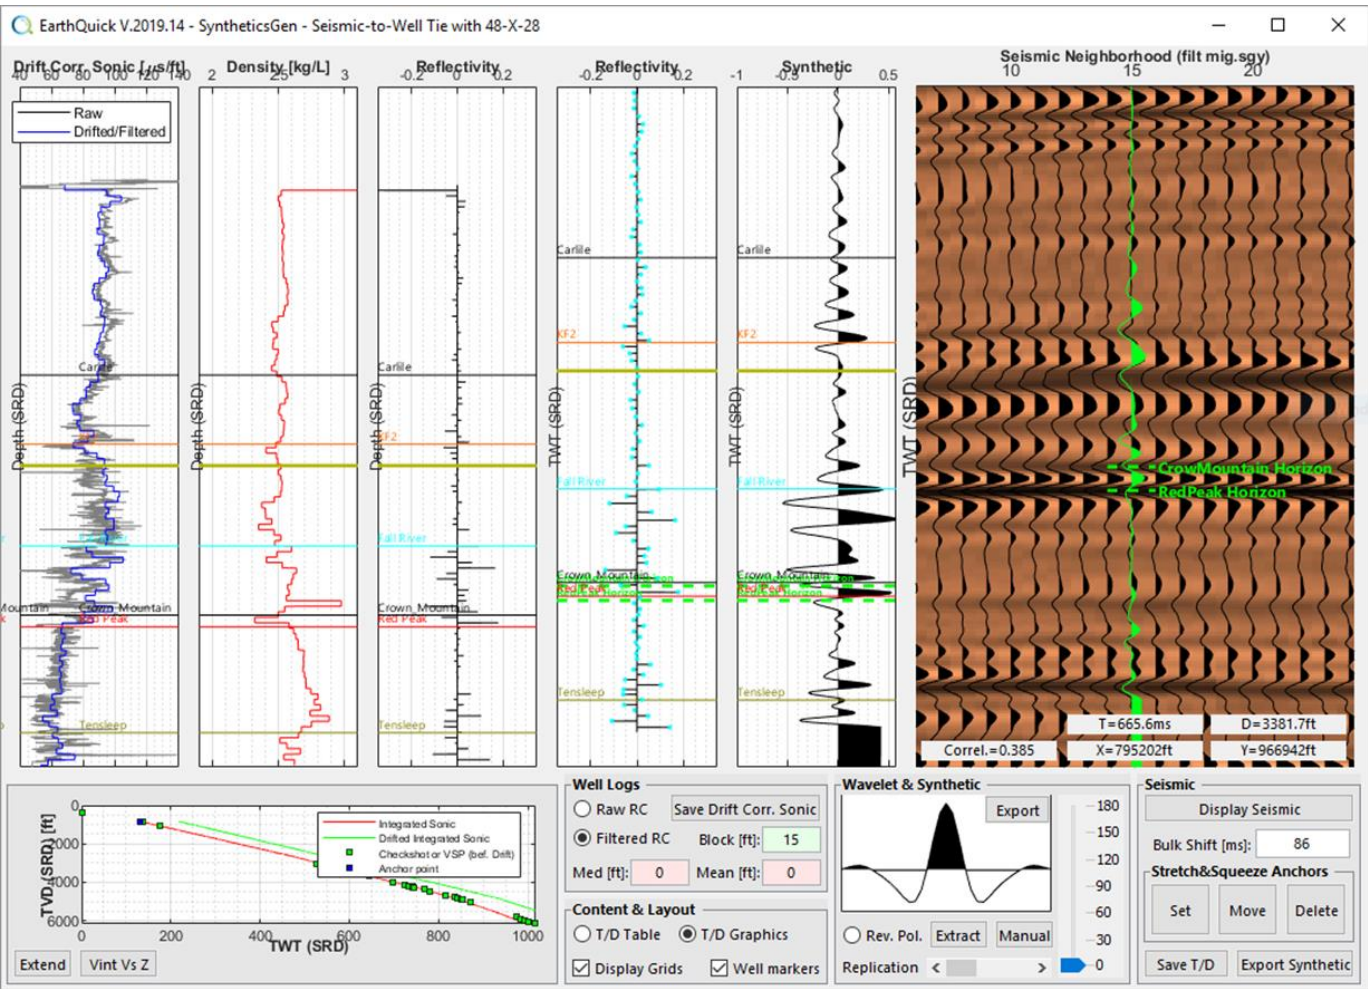

Figure 102: Main frame of SyntheticsGen - Seismic-to-Well Tie
After complying with drift correction, if any, users could observe main frame as shown in Figure 102.
From Track 3 to Track 4 (see Figure 102), the Reflectivity log is converted from depth to time domain. Because of the further need to compute a convolution by the wavelet, Reflectivity log in time is processed to end up with a constant sampling rate of 0.1 ms.
Samples which are taken into account for convolution are highlighted as blue dots on track 4 (see Figure 102).
- 29) Perform the complete workflow described in Figure 99 to end up with Figure 102. Your observations should be close to Figure 102. Use the *filt_mig* seismic volume.